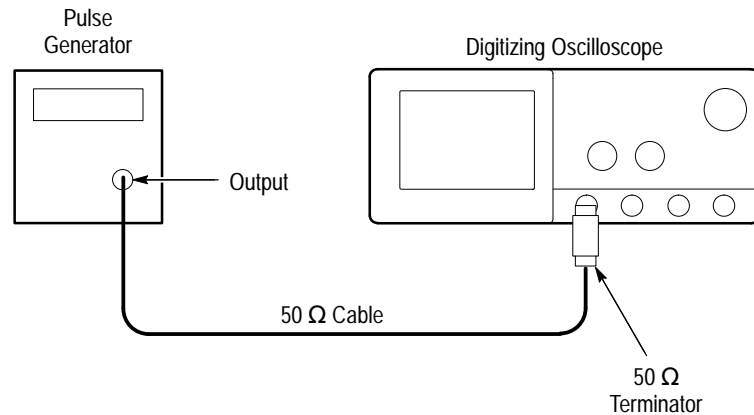

Figure 4–37: PG502 Setup for Sync Duty Cycle Test
- Connect the pulse generator (PG502) through a 50  $\Omega$  cable and a 50  $\Omega$  terminator to the oscilloscope CH1 input. See Figure 4–37.
- Turn the pulse generator **OUTPUT (VOLTS)** control until the signal on the oscilloscope shows a one division negative going pulse. See Figure 4–38.